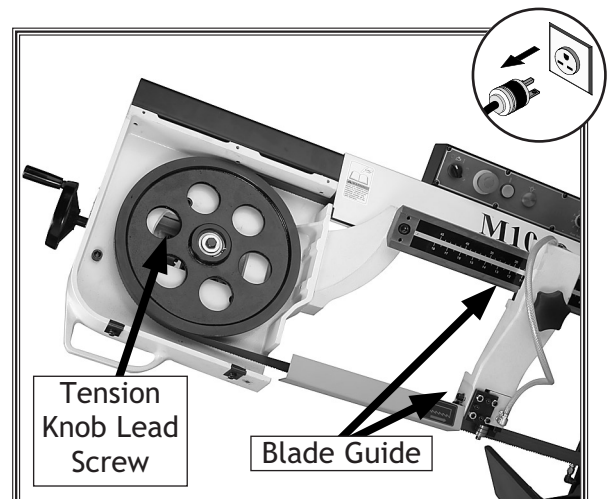

Figure 27. Main lubrication points.
- **Blade Tension Mechanism:** Open the main blade guard and drop a few drops of oil on the tension knob lead screw (see Figure 27).
- **Blade and Guides:** Drop a few drops of light machine oil on the blade and the blade guides daily, especially when cutting cast iron, as no cutting fluid is recommended (see **Figure 27**).